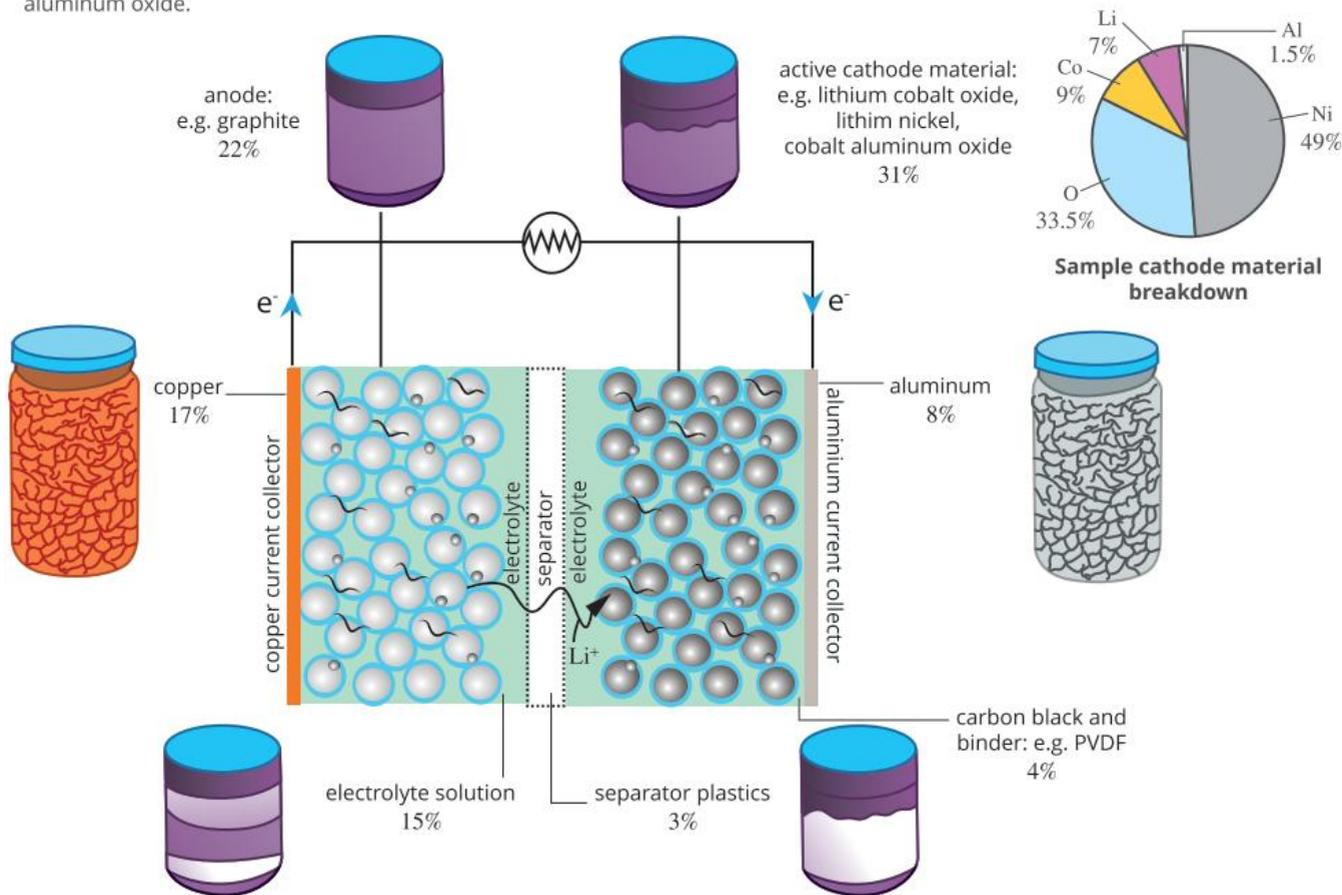

FIGURE 9.2.7 The electrodes and the electrolytes used in lithium-ion cells are complex compounds.
- The difficulty of recycling the batteries and separating the materials. The electrodes in older-style lead–acid batteries are relatively easy to recycle as large pieces of pure lead are used as the anodes. The electrodes in lithium-ion batteries are sophisticated, composite materials, however, and it is not currently possible to isolate the individual metals from recycled batteries. The complexity of the materials in lithium-ion batteries is evident in Figure 9.2.7.